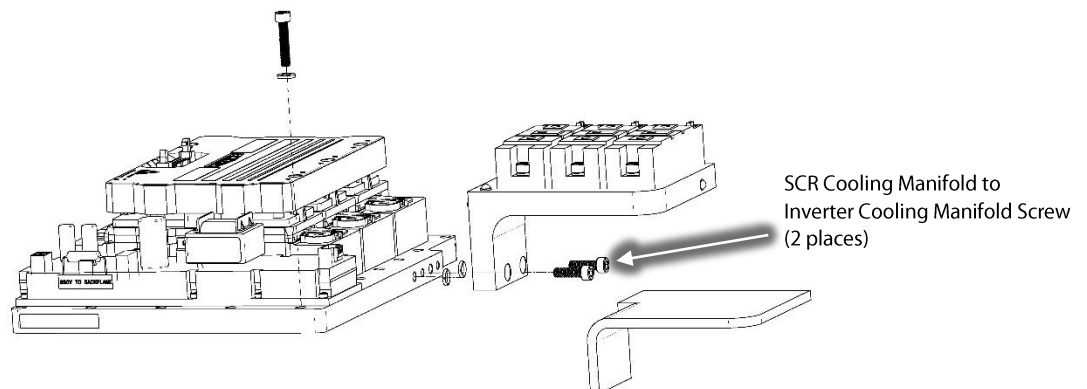

Figure 21 – SCR Cooling Manifold Removal
31. Carefully remove the SCR cooling manifold foam insulation in order to gain access to the two (2) screws shown in Figure 21 (SCR Cooling Manifold Removal).
32. Remove the two (2) screws indicated in Figure 21 (SCR Cooling Manifold Removal) and carefully remove the SCR Cooling Manifold.
33. Remove and discard the two (2) O-rings present after removal of the SCR cooling manifold from the Inverter Cooling Manifold.